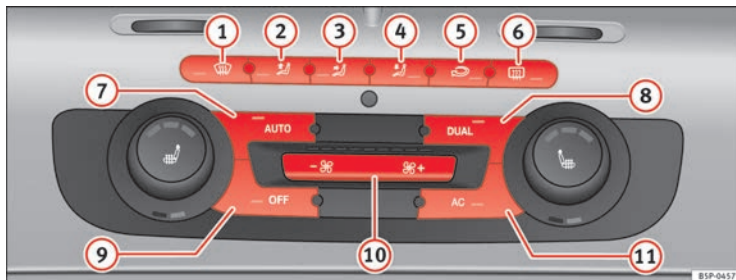

Fig. 113 On the dash panel: 2C Climatronic controls.
- To enter manual mode, press one of the buttons \Rightarrow fig. 113 (1) to (5) or press the air flow control (10). The selected function is shown on the radio or navigator display.
- Press the button  ⇒ page 157, fig. 113  to switch air recirculation mode on or off. It is switched on if the following symbol appears in the display .